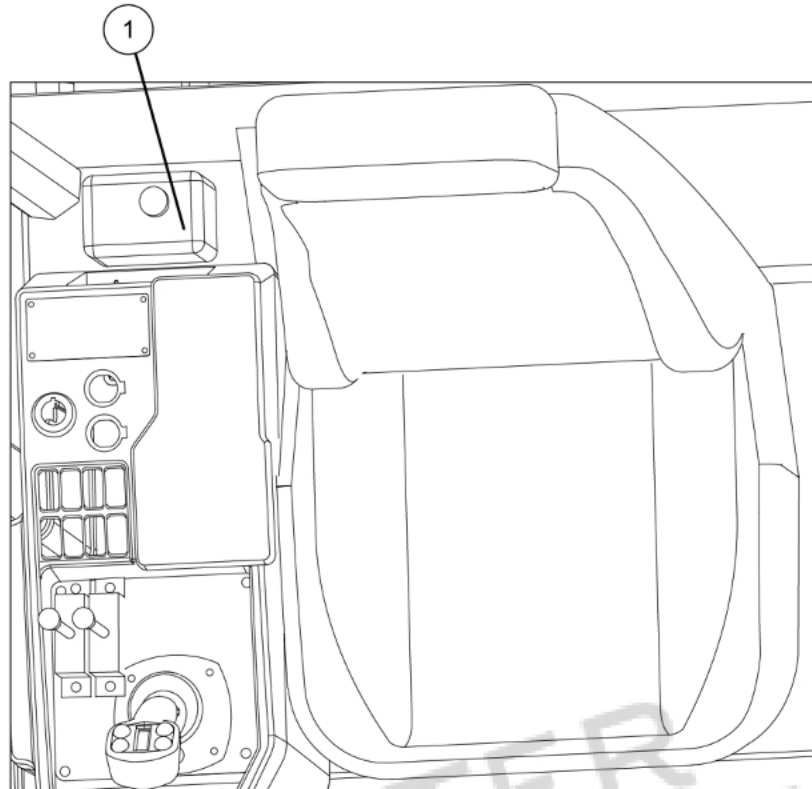

Figure 6-39 Cleaning liquid tank
Step 2: Check cleaning liquid level in cleaning liquid tank (1). If liquid level is lower than 1/3 of height of cleaning liquid tank, add same type of cleaning liquid, and cleaning liquid level should not be higher than 2/3 of height of hydraulic tank, as shown in Figure 6-39;